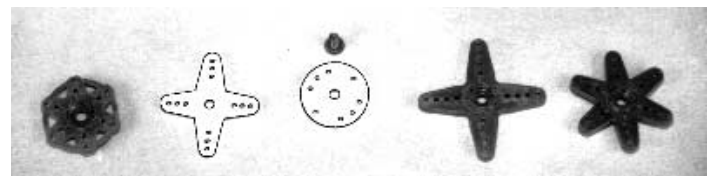

Fig. 166
□ **Figs. 166, 167 & 168** (1) Still working with bag #6-13 we will need to remove the #6712 throttle wiper arm, one #3721 #2 x 1/4" sheet metal screw, and one #3721 #2 flat washer (there is normally an extra #3721 screw and washer). (2) Look at the servo horns that came on or with your servo. Fig. 166 shows five of the more common servo horns used by the major manufacturers. The ideal design (for this application) is the small round servo horn shown in the center of the photo. The other servo horns will work but they do require trimming so they will not interfere with the wiper arm movement. (3) Push the chosen servo horn back onto the spines of the output shaft of the servo but do not secure it. (4) Place the #6712 wiper arm over the servo horn. Make sure the button on the wiper arm is facing down (towards the resistor bands). (5) The screw that was holding the servo horn that came on your servo will go through the center slot in the #6712 wiper arm, then the servo horn and secure both parts to the servo. Install this screw for now but do not secure it. (6) Now look at the bottom of the round portion of the wiper arm. You will see a small hole. Rotate the wiper arm on the servo horn until the small hole will line up with one of the holes in the servo horn. You have a little up and down movement with the wiper arm to help make sure everything will line up correctly with a hole. (7) When you find a hole that lines up, go ahead and secure the wiper arm to the servo horn with the #3721 screw and #2 washer. (8) Now remove the servo horn mounting screw then the servo horn/wiper arm assembly. We want to line up the wiper arm over the wide neutral band on the green throttle resistor. The output shaft of the servo is splined so you can rotate the servo horn assembly one spline at a time to adjust the starting position. Once you have it lined up correctly go ahead and resecure the servo horn assembly with the servo horn screw. **Note: This is just a basic setup. We will make final adjustments when we do our final radio setup at the end of the instruction manual.**